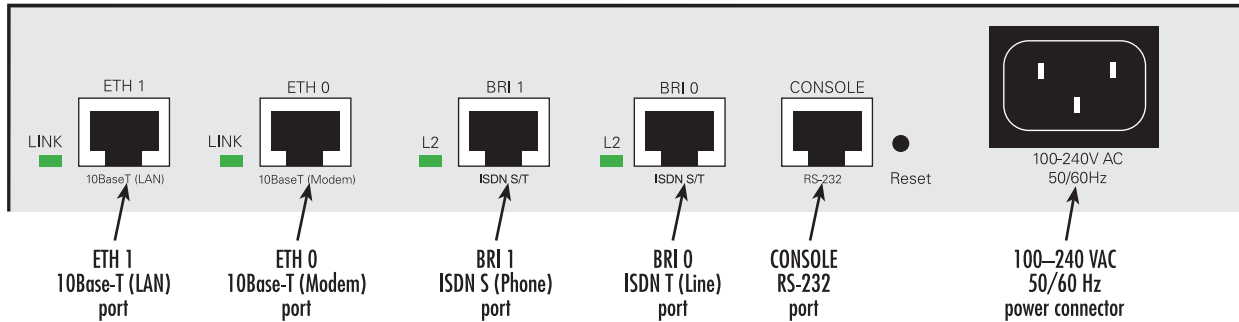

Figure 46. SmartNode 1400 connectors
1. Installing the 10Base-T Ethernet cable into ports *ETH 0* and *ETH 1* (see figure 46) (see “Installing the Ethernet cables” on page 79).
1. Insert the barrel type connector end of the AC power cord into the 100–240 VAC power connector (see figure 46).